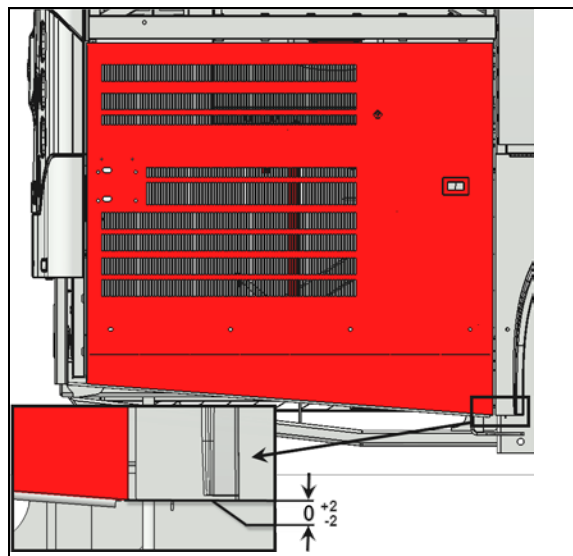

FIGURE 107
3. Compare the lower edge of the door level with the lower edge of the rear fender. The door should be flush with the fender (FIGURE 107).